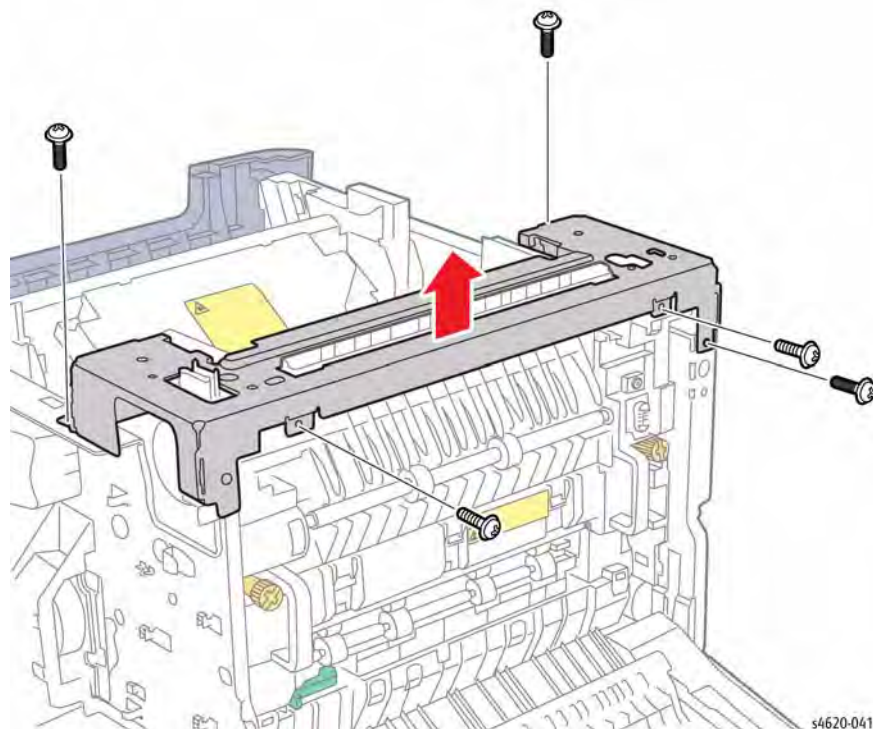

Figure 1 Remove the rear support bracket
9. Lift the bracket and rest on the printer chassis, Figure 1.